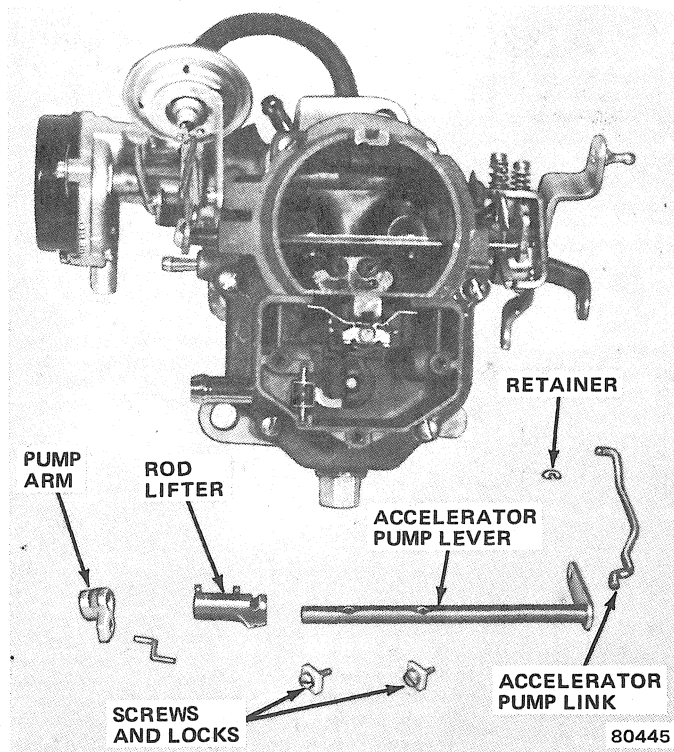

Fig. 1J-100 Accelerator Pump and Lever
(15) Remove venturi cluster screws. Remove venturi cluster and gaskets from main body. Discard gaskets. Do not remove idle orifice tubes or main vent tubes from cluster.
(16) Invert carburetor main body and drop out accelerator pump discharge check valve ball (fig. 1J-105).